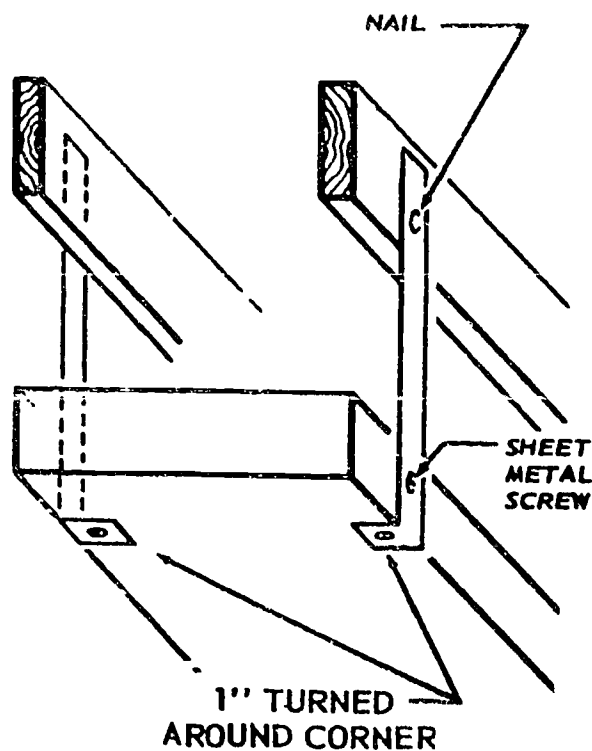

Figure 4-20. Strap hangers.
**Hangers.** In volume 2 of this course, you learned that hangers are used to support and level the heating and air-conditioning ducts. The size and shape of the hangers are determined by the size, weight, and material of the duct and by the characteristics of the structure to support the duct. Hangers made of angle iron are used for heavy duct joints that require extra support. The duct joints on foldout 1 are supported with strap hangers made of 16-gage sheet metal cut in 1-inch strips or of lighter gages (such as 24-gage) cut in 2-inch strips and folded like a drive slip to make double thickness 1-inch strips. These hangers are nailed at one end to the rafters or to other structures in the attic, as shown in figure 4-20. Notice how you turn the ends of the hangers around the lower corners of the duct and secure them with sheet metal screws. Use a Whitney punch to make the holes in the hangers. Use a portable electric drill to make the holes of the duct for the sheet metal screws.